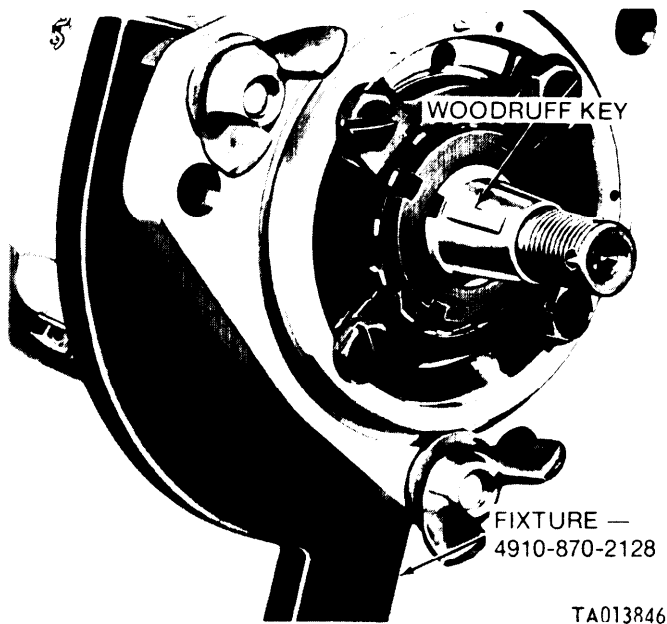
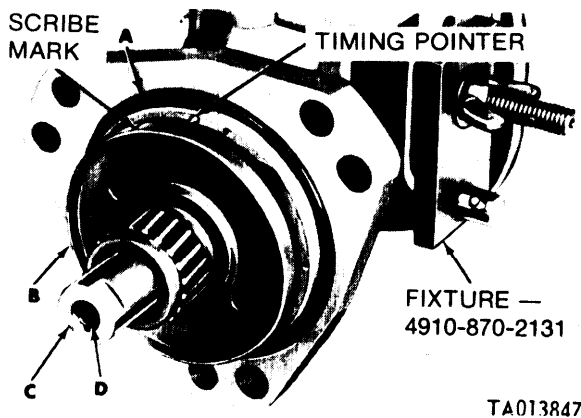

Figure 3-125. Removing fuel injection pump and fixture from vise.
Figure 3-126. Installing timing device hub on camshaft.
(1) Refer to figure 3-125. Install woodruff key on
(2) Refer to figure 3-126. Lubricate and install pump housing packing (A). Install timing device hub (B) on camshaft, alining slot with woodruff key (fig. 3-125). Install camshaft nut (C) and torque tighten nut to 50-55 foot-pounds. Install camshaft nut setscrew (D) and torque tighten setscrew to 25-28 foot-pounds. Remove fixture from injection pump housing.